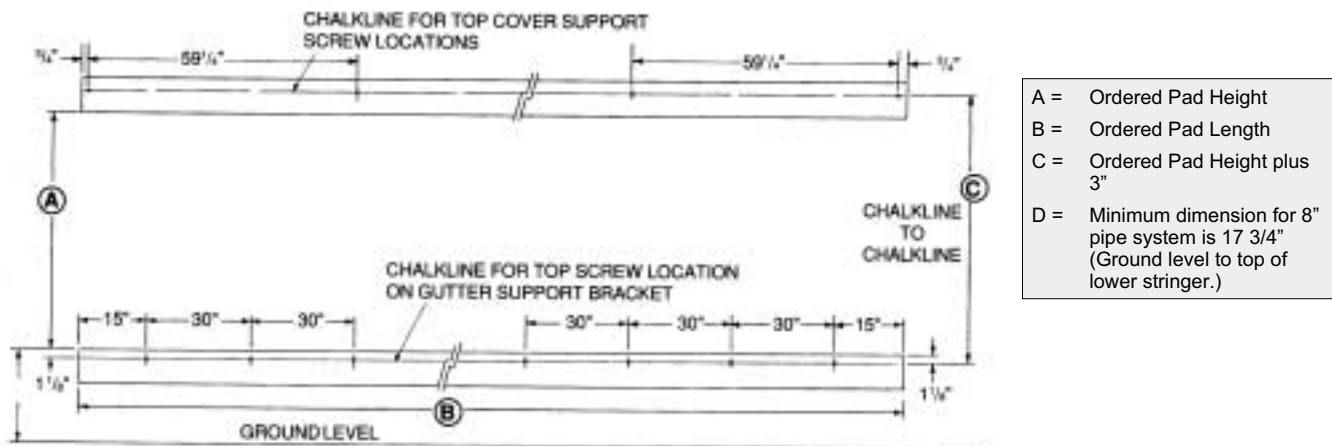
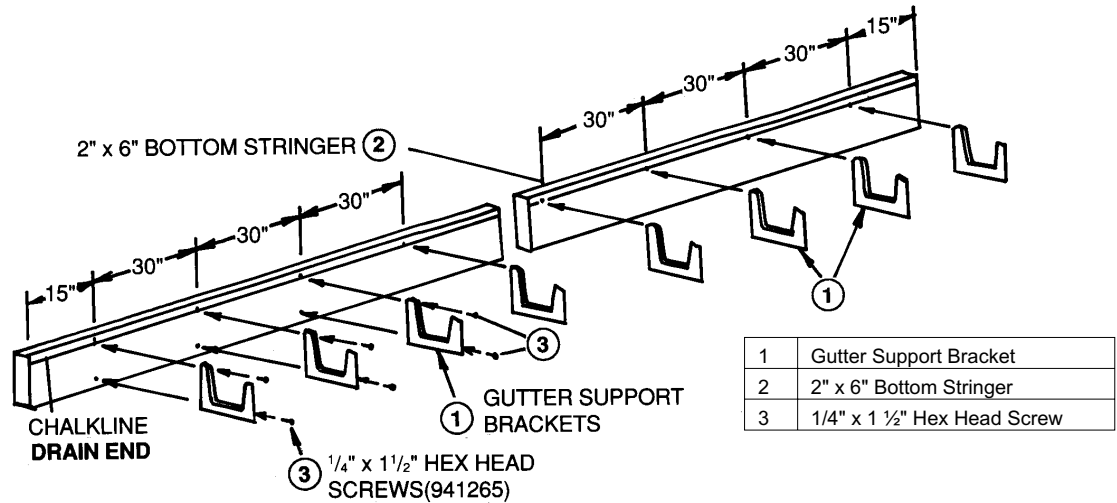

Figure 2
Figure 3
- To locate the gutter support bracket position on the bottom stringer, refer to chalk line shown in figure 2. The chalk line should be 1" down from the top of the stringer and run its full length. The chalk line will be used to locate the top hole position of the brackets. Hole spacing is shown in figure 2 and figure 3.
2. Install all gutter support brackets (1) as shown in figure 3, making sure brackets are vertical.